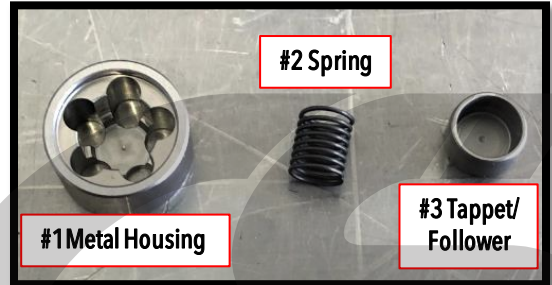
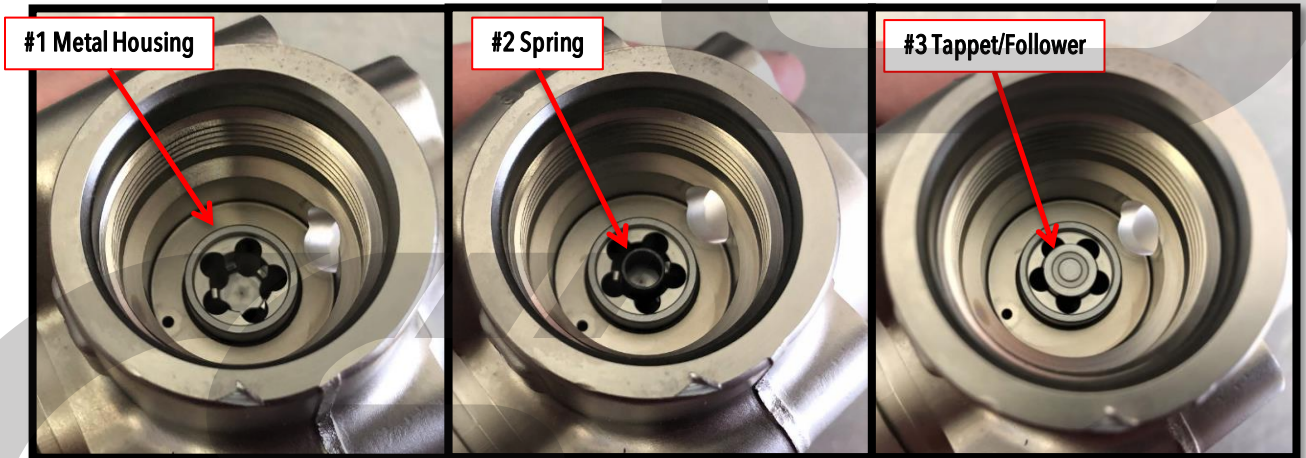

Figure 5h
Figure 5i
- o) The spill valve components removed in Step 1e can then be reinstalled in the HPFP housing. The order and orientation is explained below and shown in **Figure 5h** and **Figure 5i**.
1. First is the metal housing with the five holes. Install in the orientation shown in **Figure 5h** and **5i**.
3. Third is the tappet/follower. Install it so it covers the spring and is captive in the metal housing. Correct orientation shown in **Figure 5i**.